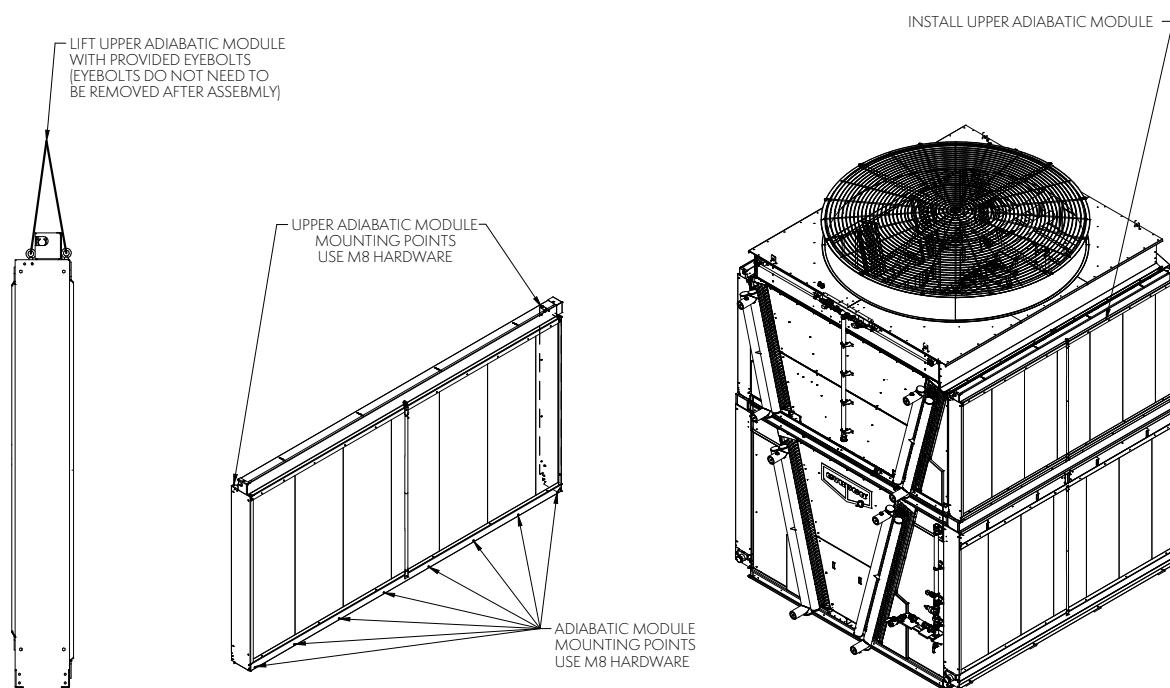

Figure 29 – Installing Upper Section Adiabatic Modules
- Install upper adiabatic pad modules as shown below in Figure 29. Fasten each individual module, starting on the connection end, in the locations shown before moving to the next module.